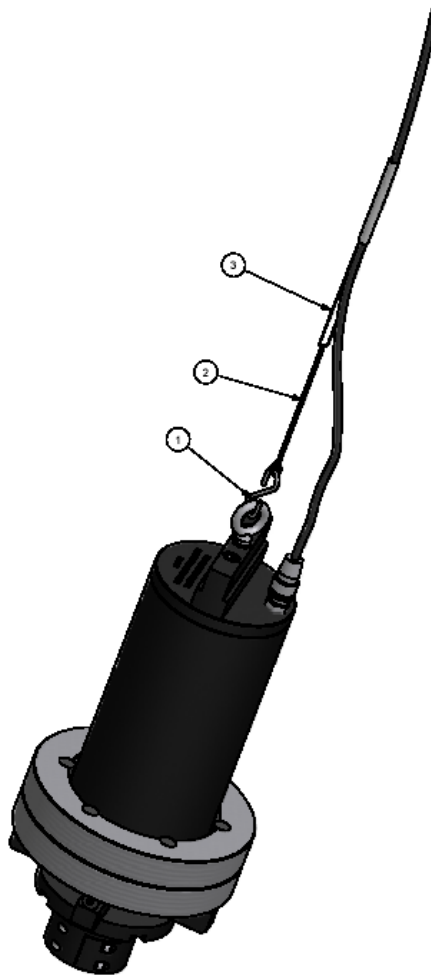

Figure 2. Attachment of Power Cable Strain Relief
Attach the power cable strain relief to the lifting eye as shown using the steel s-hook (1), the wire rope lanyard (2) and the cable grip (3) as shown in Figure 2.